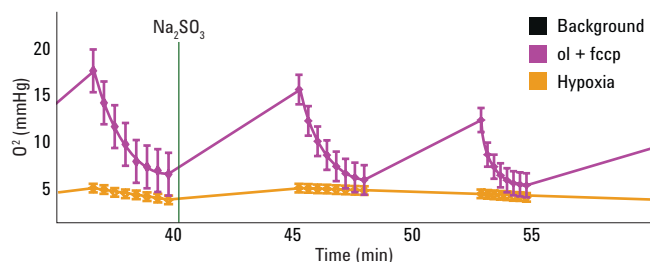

Figure 10. This group does not recover to baseline oxygen levels between measurements.
- d. If the experimental group wells demonstrate a failure to recover to baseline oxygen between measurements or a nonlinear decrease in the oxygen level (Figure 10), these wells may be developing anoxic conditions in the microchamber. Consider seeding fewer cells and repeating the assay.